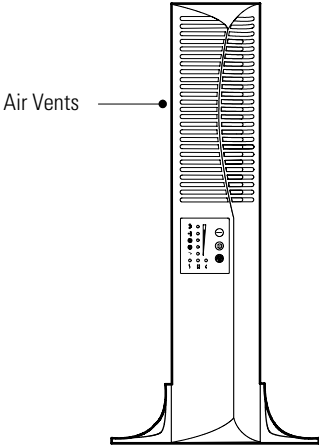

Figure 8. UPS with Pedestals
- 4. Carefully position the cabinet upright with the air vents at the top (see Figure 8).